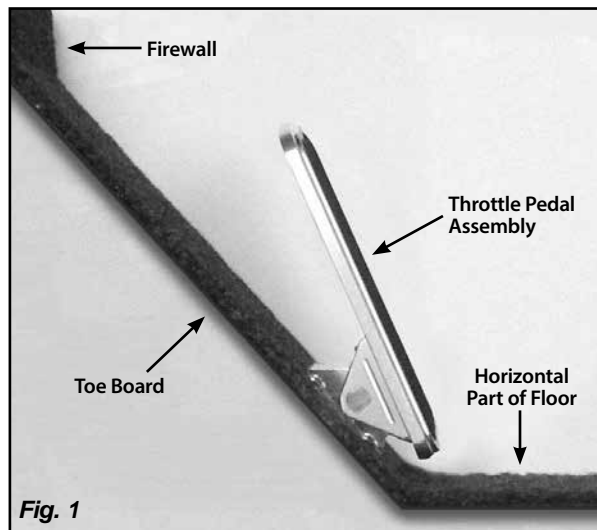

Fig. 1
Step 1: Determine your desired mounting location. This throttle pedal is designed to be mounted on the angled toe board just below the vertical firewall, **NOT** on the horizontal part of the floor. **Fig. 1** The bottom edge of the pedal pad should be parallel to the horizontal part of the floor. Make sure that the location of the pedal bracket, throttle cable, and cable pull arm will not interfere with any other components such as brake or fuel lines, clutch linkage, wiring, or exhaust. **Fig. 2**